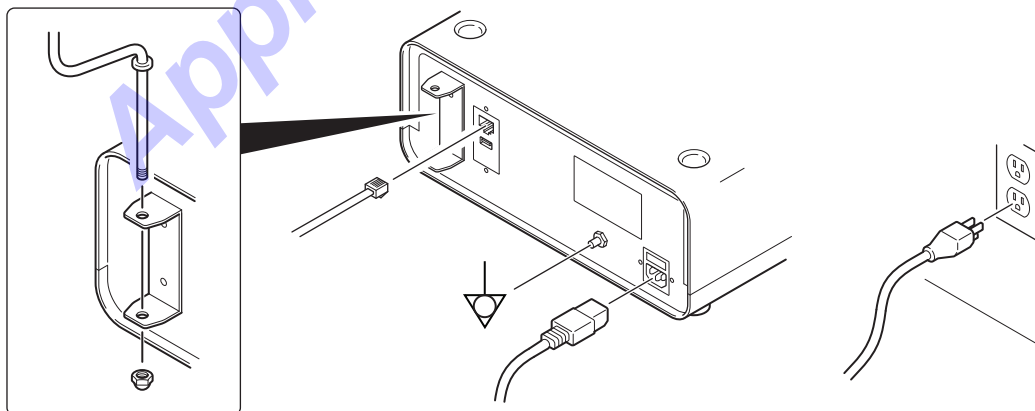

Figure 5 – Console (rear view) Connection/Disconnection Interface
3. Verify the following items are connected; connect as necessary (*Figure 5*):
- 7.1. If required, install an irrigation pole (*Figure 5*).